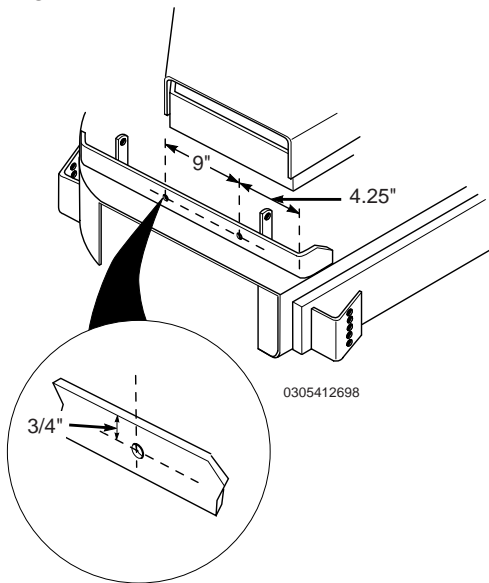

Figure 1, Hole Locations
1. If your cutter deck does not have the two discharge chute mounting holes, locate and center punch the two hole locations in the cutter deck as shown in figure 1. Drill the holes at the marked locations using a 1/8" drill bit, then finish drilling using a 13/32" drill bit.